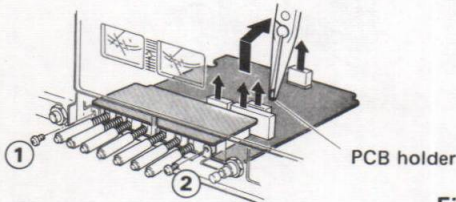

Fig. 15
- 2) Remove 2 screw, (1) and (2).
- (Refer to Fig. 15)